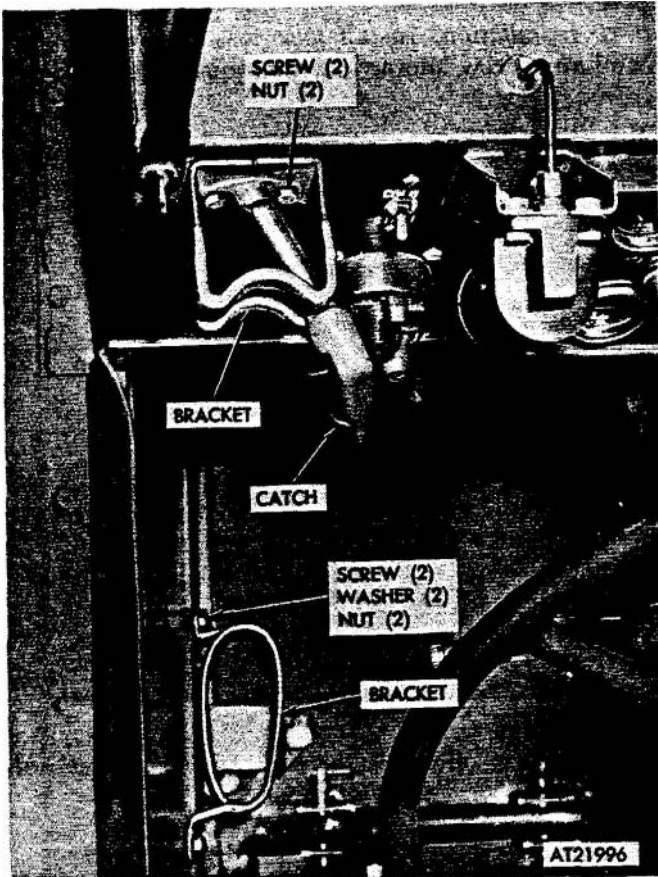

Figure 2-344. Rifle mounting brackets (driver side), removal and installation.
(1) Remove bracket and catch assembly by removing two screws and nuts securing assembly to tractor (figs 2-344 and 2-345).
(2) Remove either floor rifle mounting bracket by removing two screws, lock washers, and nuts securing bracket to tractor.
(1) Position and secure floor rifle mounting bracket with two screws, lock washers, **and** nuts (figs 2-344 and 2-345).
(2) Position and secure bracket and catch assembly with two screws and nuts.